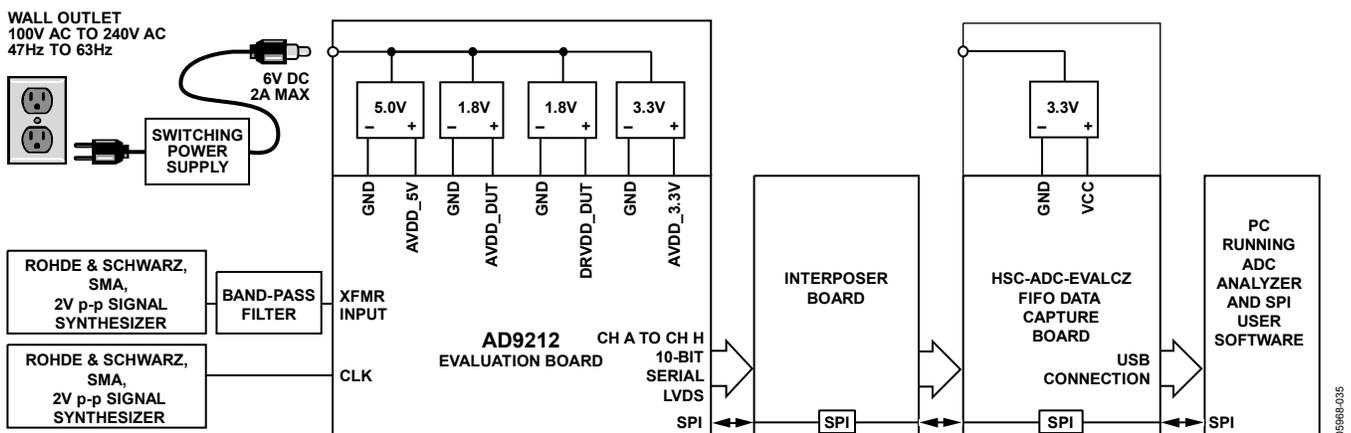
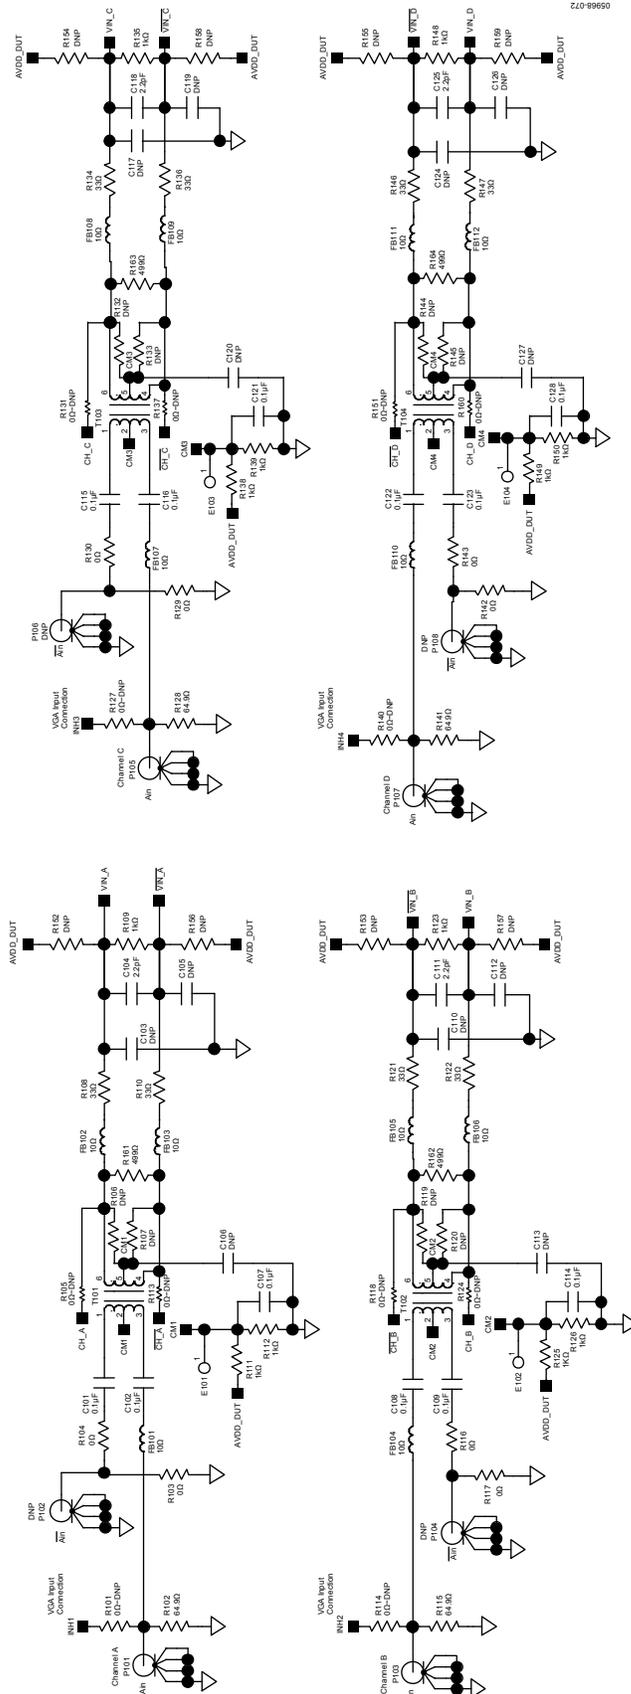
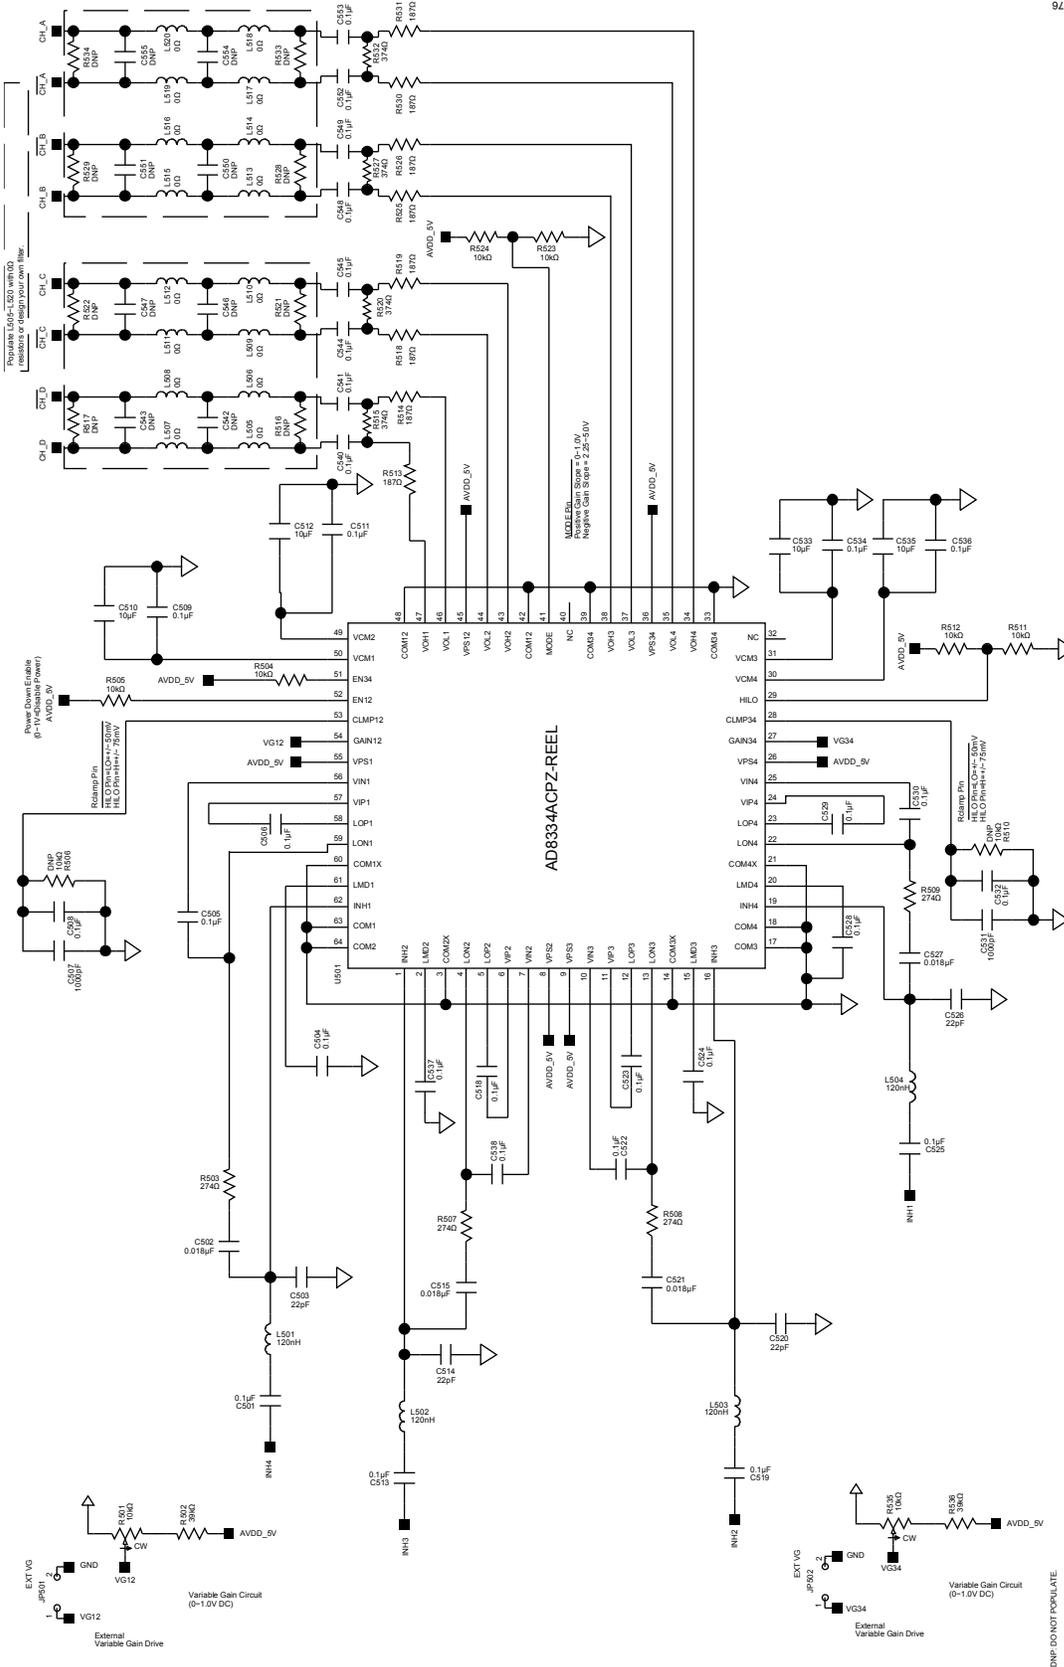
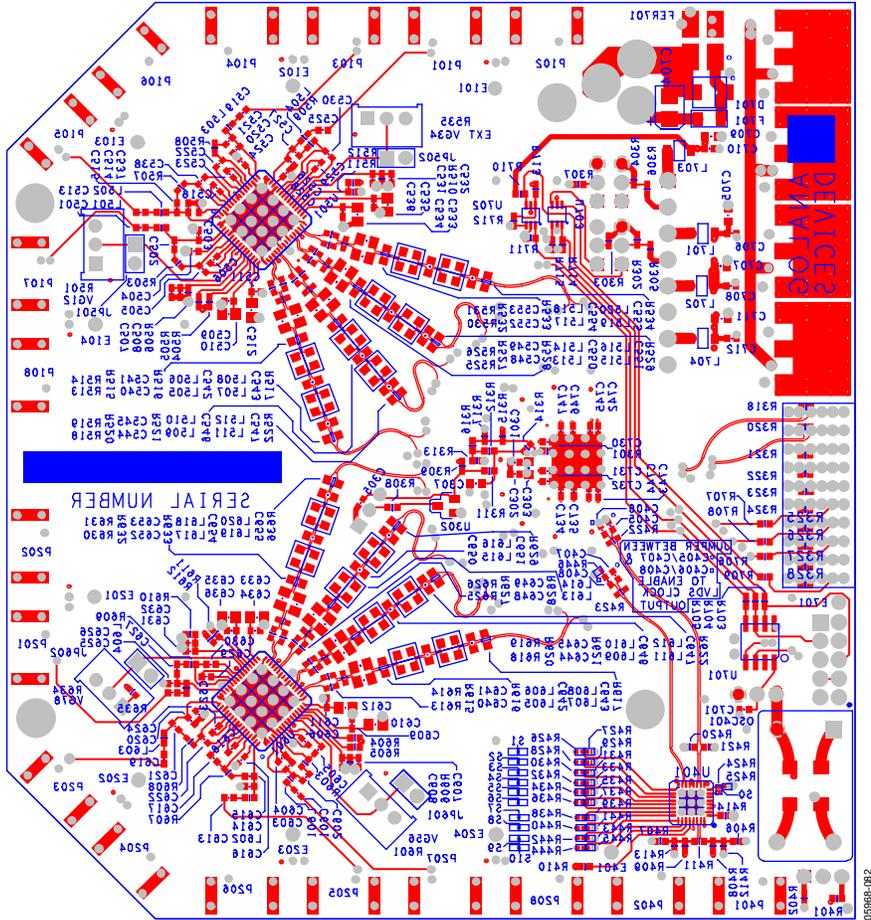

Figure 70. Evaluation Board Connection
Figure 74. Evaluation Board Schematic, DUT Analog Inputs
Figure 78. Evaluation Board Schematic, Optional DUT Analog Input Drive
Figure 84. Evaluation Board Layout, Secondary Side (Mirrored Image)
The AD9212 evaluation board provides all the support circuitry required to operate the ADC in its various modes and configurations. The converter can be driven differentially by using a transformer (default) or an AD8334 driver. The ADC can also be driven in a single-ended fashion. Separate power pins are provided to isolate the DUT from the drive circuitry of the AD8334. Each input configuration can be selected by changing the connections of various jumpers (see Figure 74 to Figure 78). Figure 70 shows the typical bench characterization setup used to evaluate the ac performance of the AD9212. It is critical that the signal sources used for the analog input and clock have very low phase noise (<1 ps rms jitter) to realize the optimum performance of the converter. Proper filtering of the analog input signal to remove harmonics and lower the integrated or broadband noise at the input is also necessary to achieve the specified noise performance.
See Figure 74 to Figure 84 for the complete schematics and layout diagrams demonstrating the routing and grounding techniques that should be applied at the system level.
- **D + x, D - x:** If an alternative data capture method to the setup shown in Figure 74 is used, optional receiver terminations, R318 and R320 to R328, can be installed next to the high speed backplane connector.